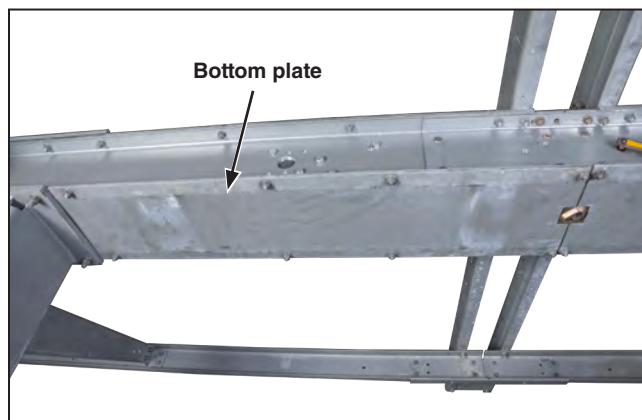

Figure 7. Removing the bottom plates from the high-speed base.
- STEP 1.** Loosen the $\frac{1}{2}$ -13×1¼-inch galvanized steel cap screws, flat washers, and nuts used to attach the bottom plates and lifting angles to the underside of the high-speed base. Remove the plates and place them and their hardware aside on a clean surface. Discard the lifting angles. See Figure 7.